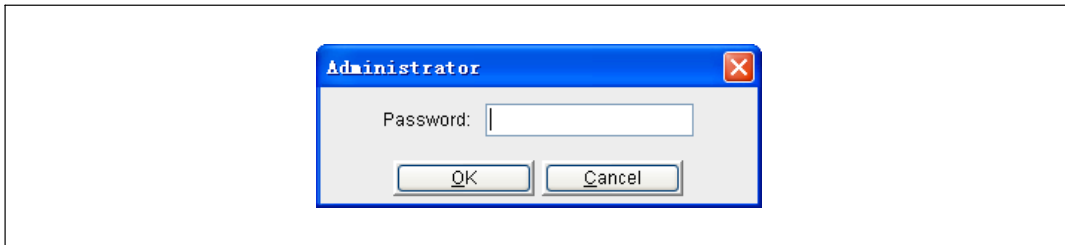

Figure 40. Administrator Password
- 2 Select **Act as Administrator** from the **System** menu. Enter the administrator password and click **OK** (see Figure 40).